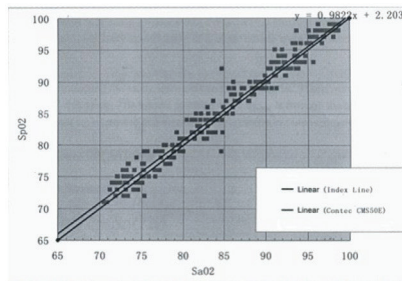
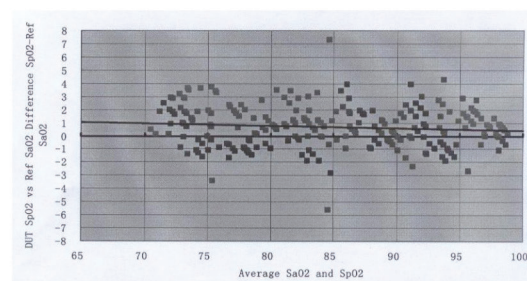

Figure 2 SpO₂ regression plot
Figure 3 Bland-Altman plot
- 5) **Measurement Accuracy:** ±2% in stage of 70%-100% SpO₂, and meaningless when stage being smaller than 70%. ±2 bpm or ±2% (select larger) for Pulse Rate. Clinical Trial : SpO₂ regression plot & Bland-Altman plot, Refer to Figure 2 & Figure 3.